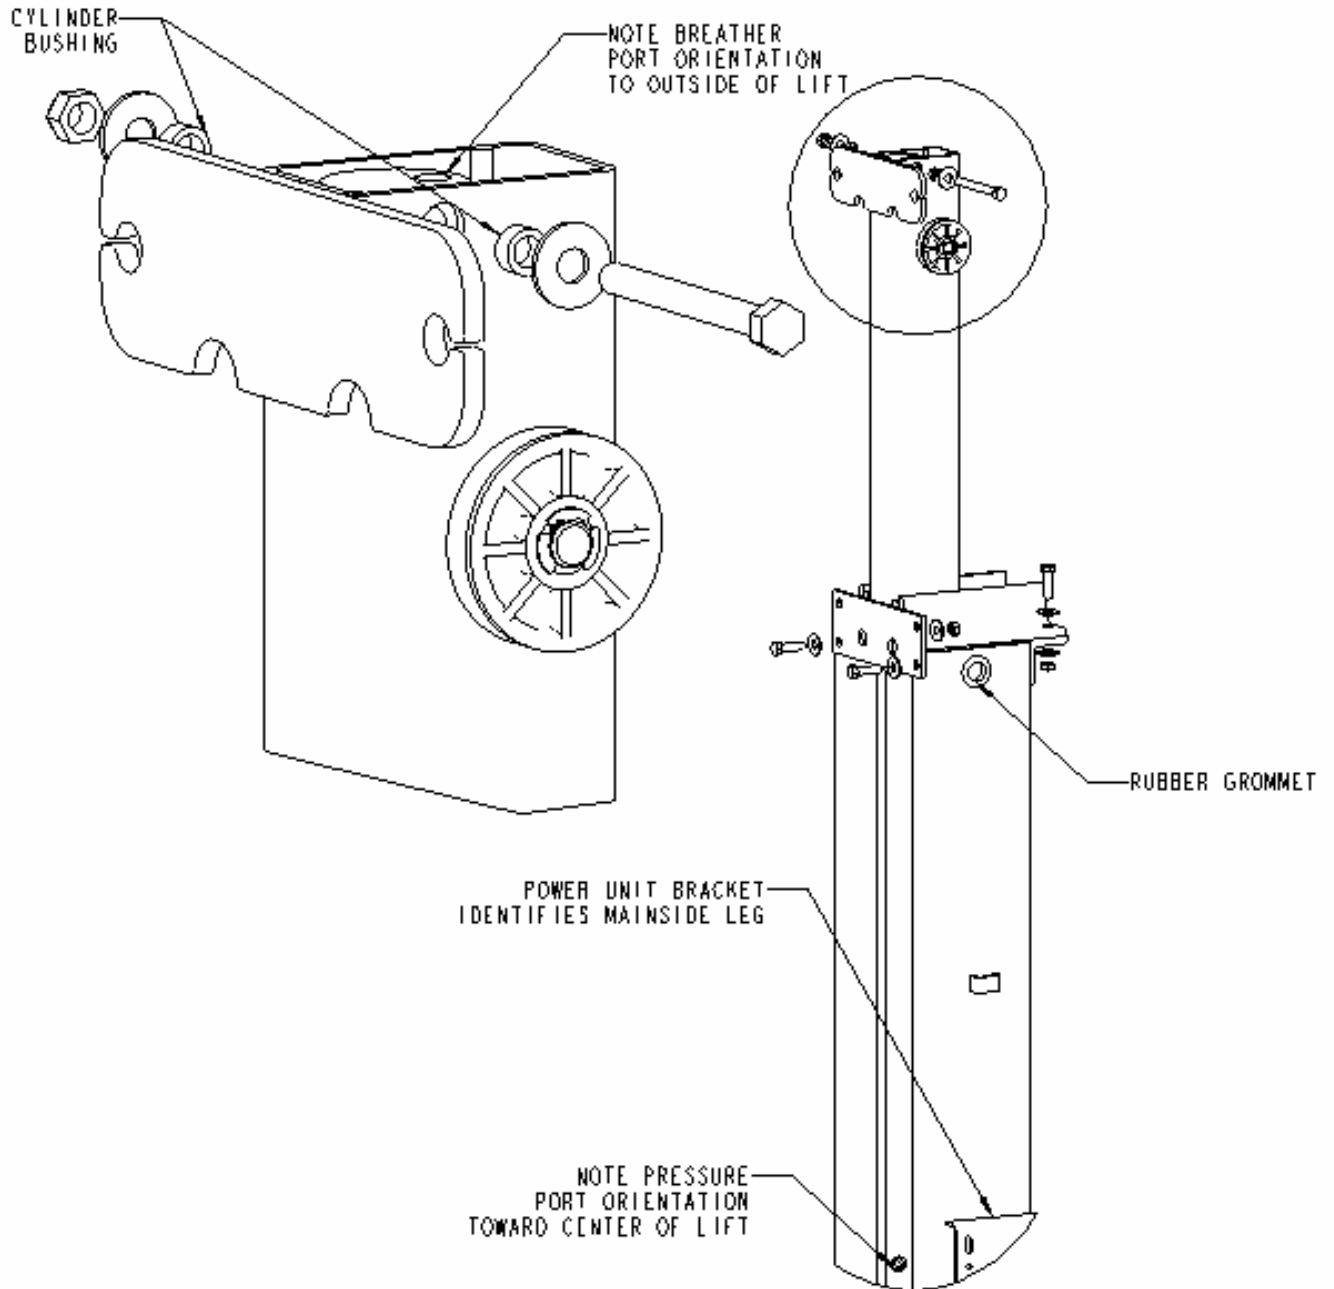

Figure 3
4. **Attach the uprights.** Attach the uprights to the legs using four 1/2" X 1-3/4" bolts, washers and nuts as shown in figure 3.
- C. Install the cylinders to the uprights with 1/2" x 5" Grade 8 bolt, **cylinder bushings**, washers, and nut, figure 3. The port near the rod end of the cylinders should be positioned pointing to the leg's open side.